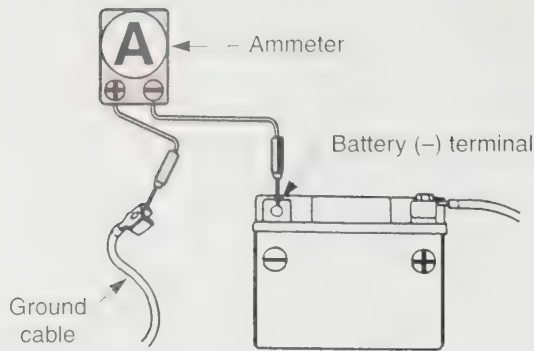

Figure 8-35. Ammeter connection for a parasitic leak test. (Honda Motor Co., Ltd.)
3. Connect the ammeter between the negative terminal and the ground cable, **Figure 8-35**.